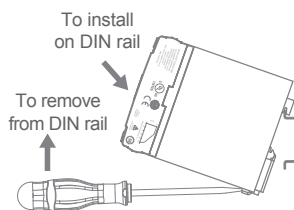

fig.1 SSR mounted on DIN rail
- › Install the relay on the DIN Rail (as shown in **fig.1**)